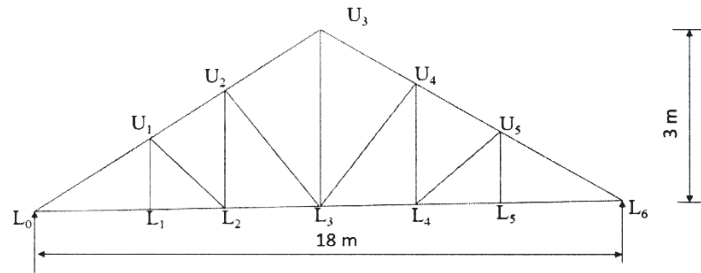

Figure 1
- Q5)** Determine panel point dead load, imposed load and wind load for a truss as shown in Figure 1. Assume design wind pressure as 1100 N/m^2 , use G.I. Sheet and the centre to centre spacing of truss as 4 m. Assume self-weight of purlin 120 N/m . [17]